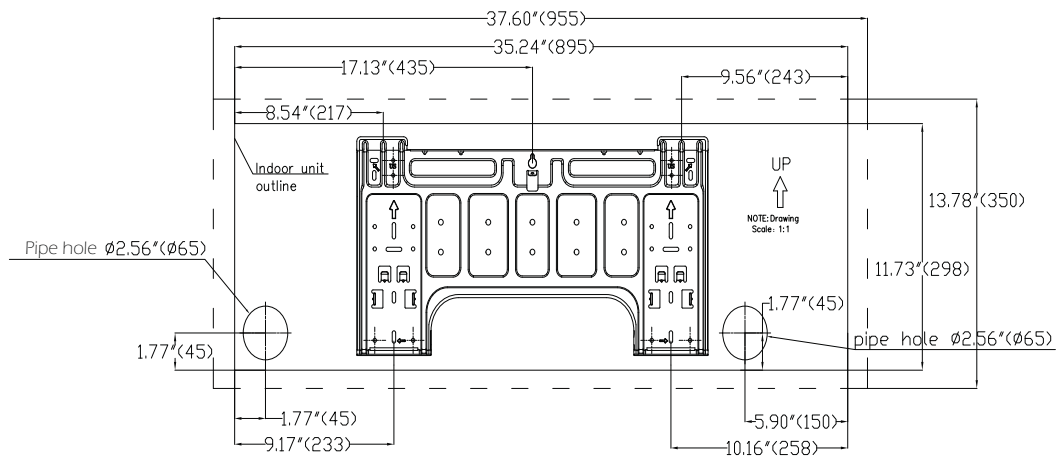
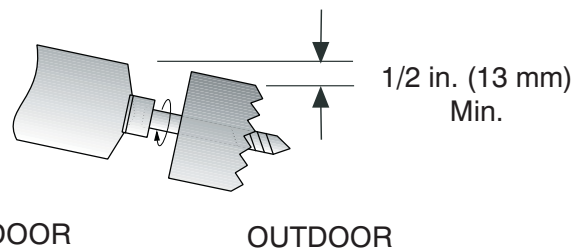

Fig. 4 — Sizes 9K and 12K
Fig. 9 —Drill Holes
Allow sufficient space for airflow and service of the unit. See Fig. 4 for the required minimum distances between the unit, walls or ceilings.
Different model sizes have different mounting plates. Ensure there's enough room to mount the indoor unit (refer to Figures 4 and 5). The following measurements can be located on these figures:
- Determine the pipe hole position using the mounting plate as a template. Drill pipe hole diameter per values given in Figures 4 and 5. The outside pipe hole is 1/2-in. (13 mm) min. lower than inside pipe hole, so it slants slightly downward (see Fig. 9).